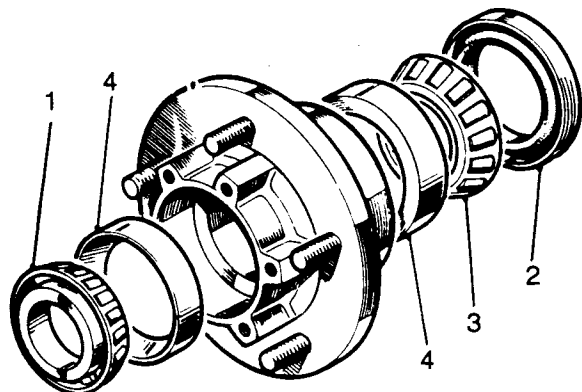

Fig J1.46
- (2) Refer to Fig J1.46. Withdraw the outer roller bearings (1).
- (3) Prise out the oil seal (2).
- (4) Withdraw the inner roller bearing (3).
- (5) Press the bearing outer races from the hub (4).